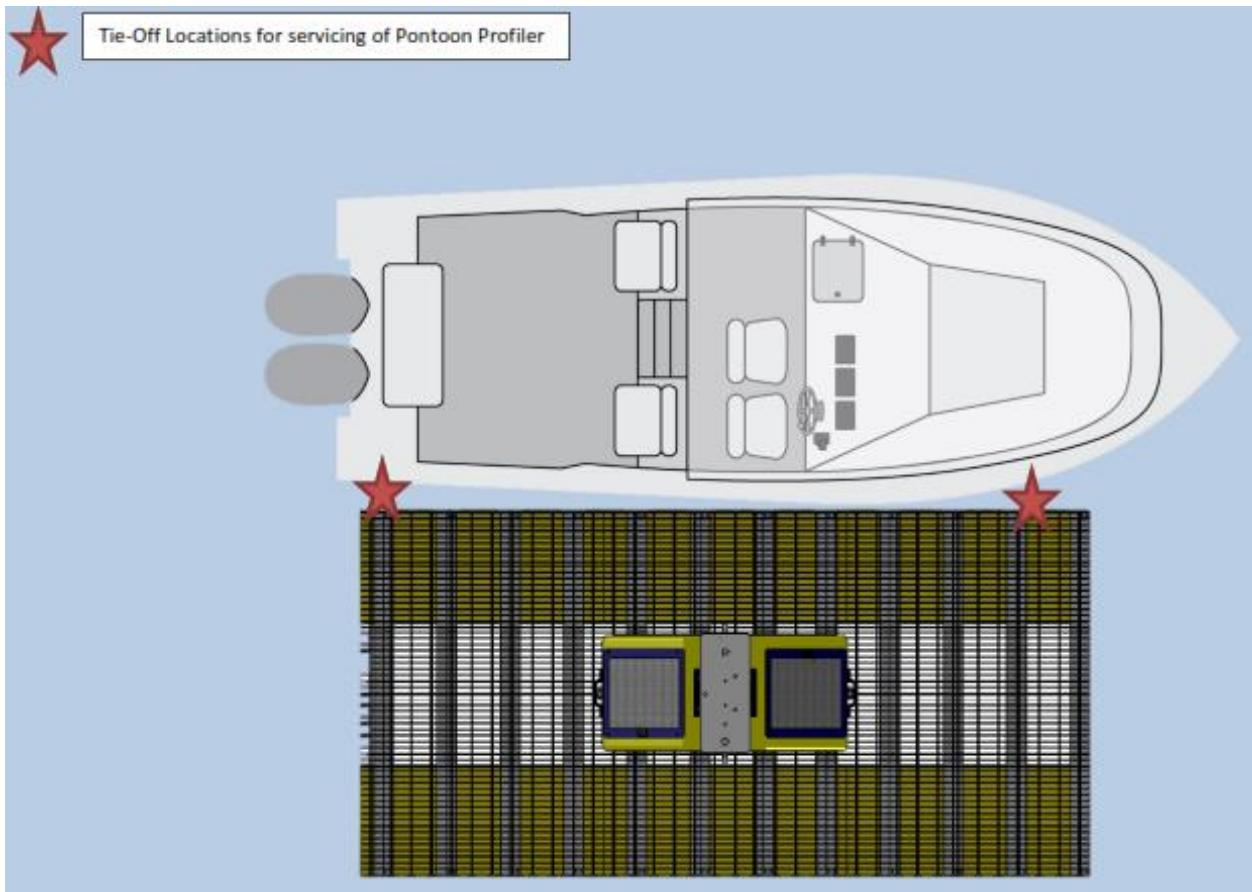

Figure 30. Tie-off Points for Servicing the AIS Buoy for Lakes (Use Only 1 Tie-off Point for River Sites)
3. Use the boat deck cleats to cinch the buoy alongside the boat, using bumpers (or spare life jackets) to protect the boat and the buoy (Figure 30). For lake sites, use both tie off points in Figure 30. For river sites, use only one tie off point. This enables a faster release to quickly respond to a Technician that falls into the river current fully dressed.